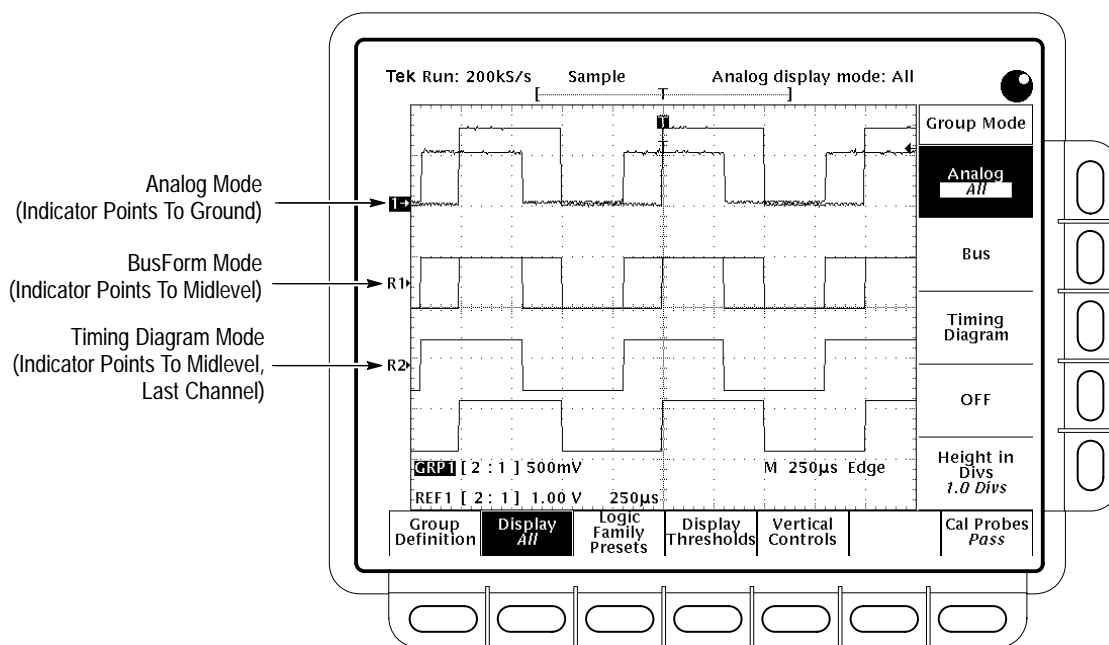

Figure 3-8: Display Modes
*Analog* displays each waveform in the group as the analog of its input signal. All waveforms in the group have superimposed ground references. (See Figure 3-8.) Unlike for the following modes, the logic scope scales *Analog* groups vertically on screen when you use the Vertical SCALE knob. Also, the group reference indicator for the group (left side of screen) points to the ground reference level for the group in *Analog* mode if vertical offset is set to zero. Use *Analog* mode to measure the actual response of a group of waveforms.
*BusForm* displays each waveform in the group as one or more of three digital logic levels defined as HIGH, LOW, or indefinite (between HIGH and LOW). The level of each waveform displayed depends on how the instantaneous level of its input signal compares with two threshold levels that you define. (See Figure 3-8.) Use *BusForm* mode to measure the idealized response of waveforms with respect to defined thresholds.
As with *Analog* mode, all waveforms in the group have superimposed ground references. (The group reference indicator points to the midlevel for the group instead of the ground level.) However, in *BusForm* mode the logic scope does not display waveform height in volts/division but as a number of divisions between the HIGH and LOW levels (group height) that you specify. (However, see **NOTE** about clipping on page 3–28.) (See Figure 3-8.)
In Figure 3-8, the logic scope is displaying the same group (Group 1) of two waveforms in the different display modes. (Group 1 was saved to Ref 1 and Ref 2 and both reference groups were displayed in the modes indicated.) Note that while the Analog group shows the difference in amplitude between the overlapped waveforms, BusForm and Timing Diagram show the waveforms as if they had the same amplitudes. This difference occurs because the logic scope displays BusForm and Timing Diagram waveforms as HIGH or LOW logic levels based on their relationship to thresholds.
To quickly determine the mode of any defined group, look at the Vertical Readout. It shows each group by number, along with the volts/division setting for each group displayed in Analog mode. Groups displayed in BusForm or Timing Diagram modes display *Bus* or *Timing* rather than the volts/division setting. (See Figure 3-8.)